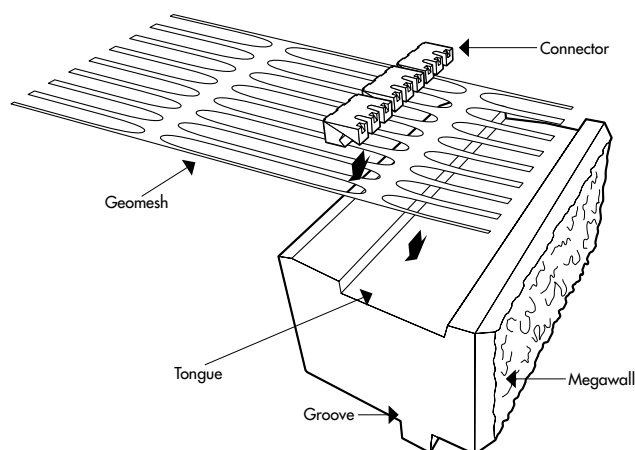
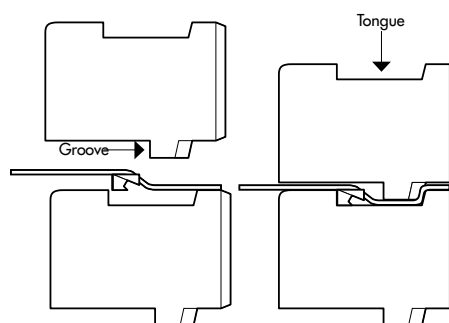

Fig. 3: Megawall used with geomesh and connectors gives a matchlessly strong structure.
Fig. 4: Fitting of geomesh and connector.
4. When building a wall using geomesh and connectors, the first mesh must always be positioned between the first and second courses (see figs. 1 and 2). See fig. 3 for fitting of geomesh and connector. Cut the mesh as shown in fig. 4. Tension the geomesh well and fill with materials so that this is maintained. Continue with a number of courses of blockstones up to the next geomesh level as per figs. 1 and 2. Compact the backfill continuously.